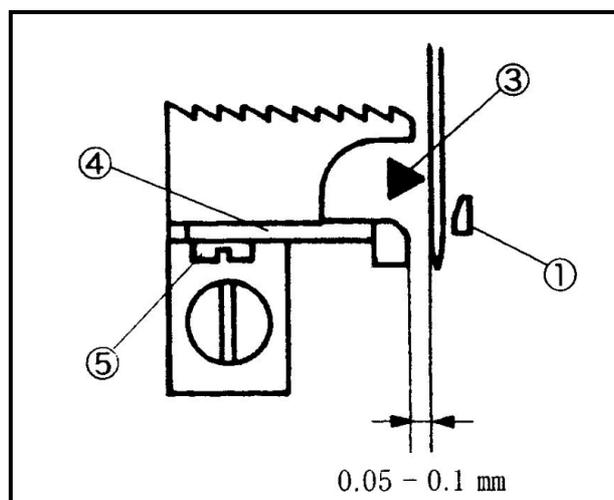

Fig.58
當後針檔④和針最靠近的時候，要有 0.05-0.1mm 的間隙。由螺絲⑤去調整。(Fig.58)
Make the standard clearance between the needle guard (rear) ④ and the left needle to 0.05-0.1 mm when they meet most closely. Open the looper cover and loosen the screw⑤ to adjust it. (Fig.58)